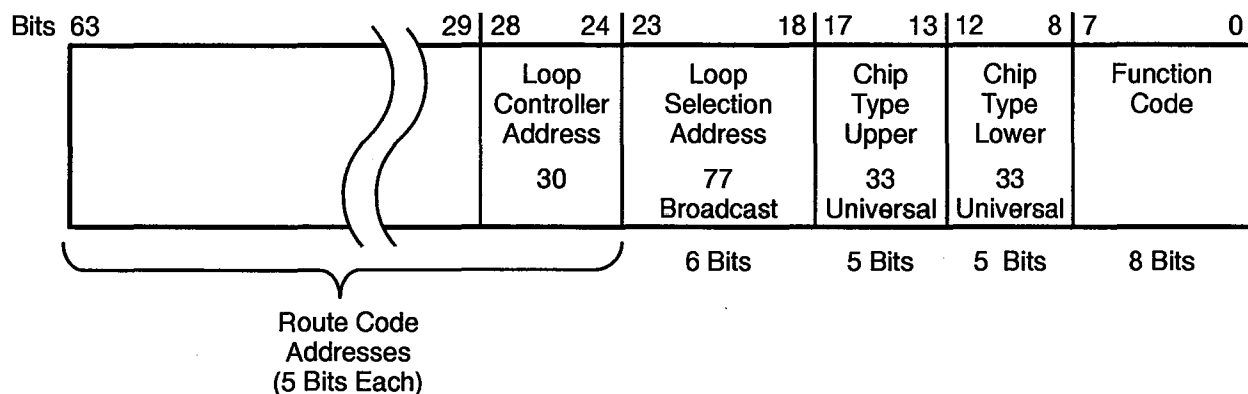

Figure 4. Loop Controller Command Word Format
- All options on the loop receive the same control function, but only the option that matches the chip type field (Figure 4) accepts the control function. All other options ignore the control function.
All function codes are sent to loop controllers in a maintenance channel command word, as described on page 11. Figure 4 shows bits 0 through 28 of the maintenance channel command word. Bits 24 through 28 route function codes to the loop controllers.